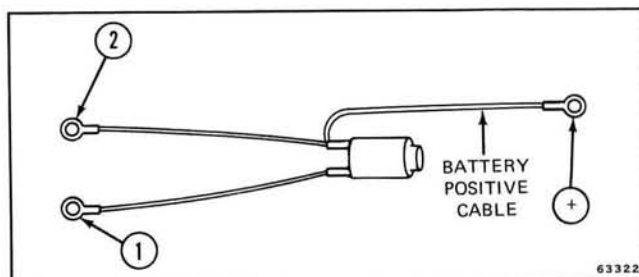

Figure 7-20. Switch Leads
Battery leads must be disconnected at battery and starter switch leads disconnected at points (1) and (2), Figures 7-20 and 7-21.
1. Connect one lead of ohmmeter to point (1) and other lead of ohmmeter to point (2). Press starter switch button. Meter should show con-